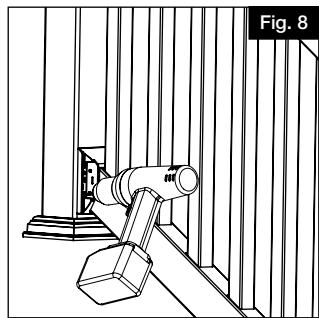

Fig. 8
- c. Ensure bracket is centered to post. Then, using  $\frac{1}{8}$ " drill bit, pre-drill first bottom bracket screw hole through bracket hole and post (use the four outside corner holes) (Fig. 8).